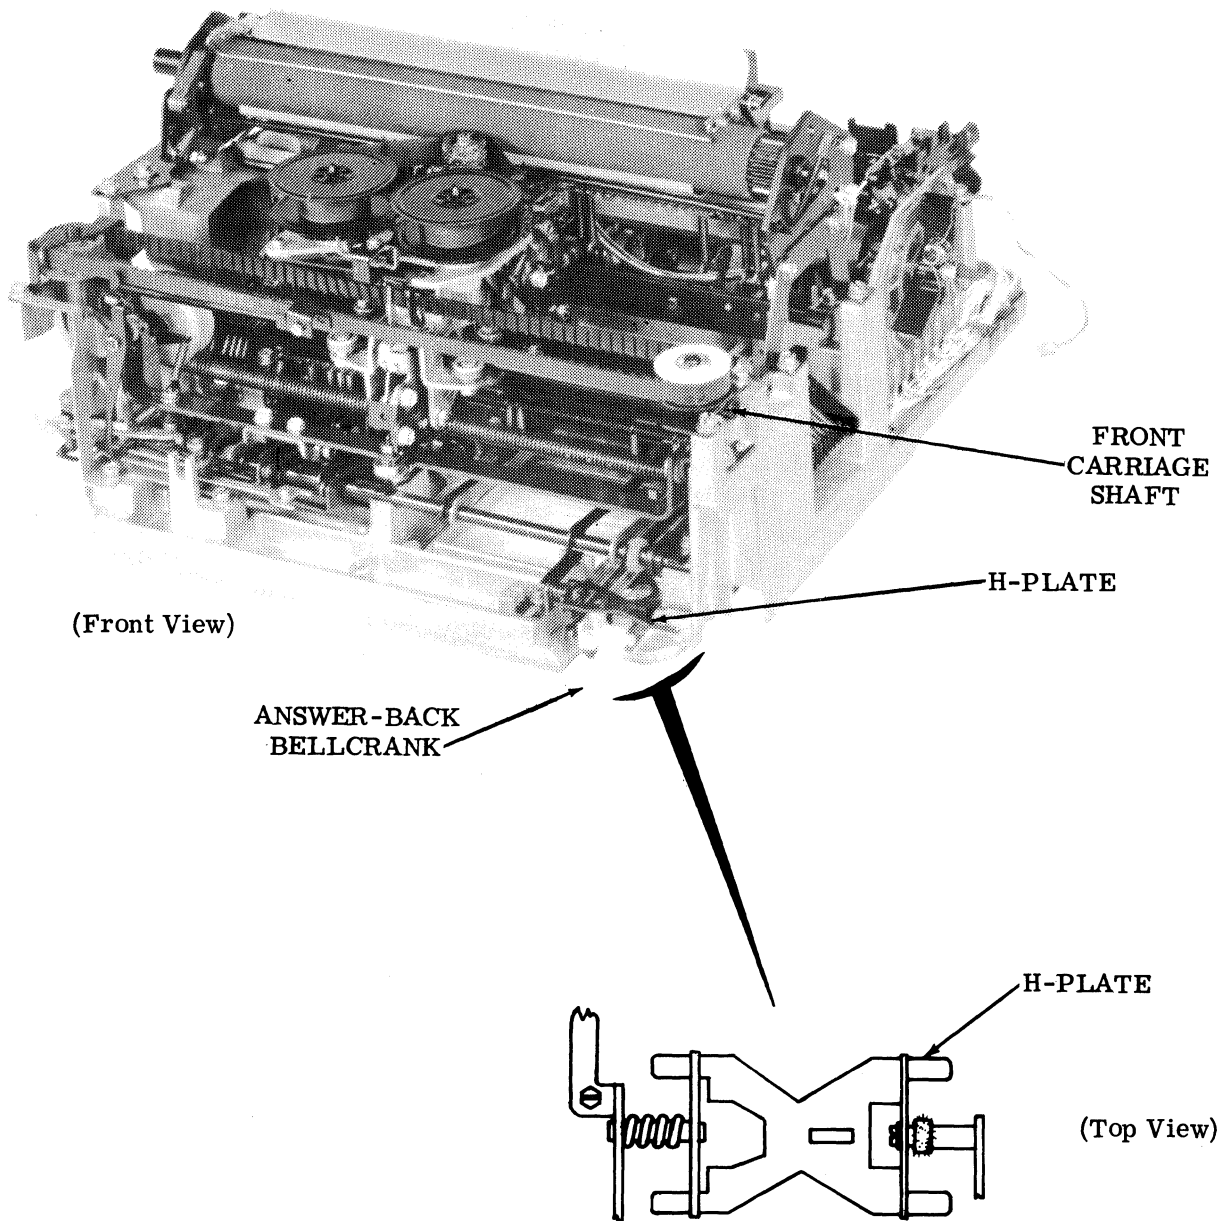

Figure 2 - Typing Unit
2.02 To remove typing unit (Figure 2), proceed as follows.
- (c) Insert screwdriver in slot of TP180977 H-plate and push to left against pressure of spring until plate is disengaged from universal lever. Remove H-plate. (See Figure 2)
- (1) Insert a screwdriver between the typing unit base casting and the subbase in the left rear of the typing unit.
- (2) Using the screwdriver as a lever, lift the left rear section of the typing unit until the left hand can be placed under the unit.
- (3) Grasp the extreme right side of the front carriage shaft and lift the typing unit from the subbase.